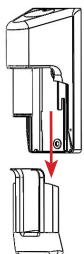

FIGURE 2.2 - Inner Cover
STEP 1: Remove the inner cover. Refer to FIGURE 2.2